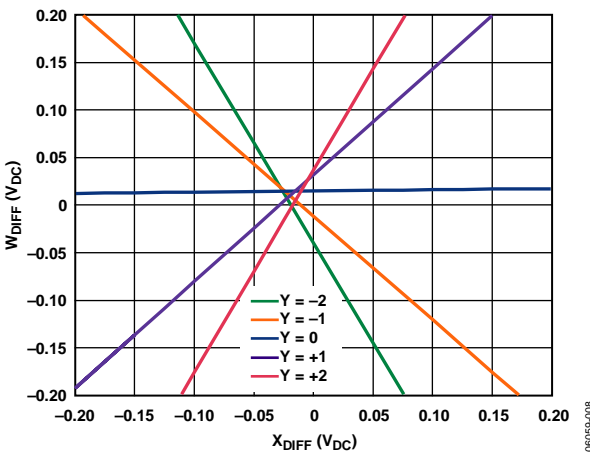

Figure 4. Magnified DC Cross Plots
The dc offset of the ADL5391 is approximately 20 mV but changes over temperature and has variation from part to part (see Figure 4). It is generally not of concern unless the ADL5391 is operated down to dc (close to the point  $X = 0$  V or  $Y = 0$  V), where 0 V is expected on the output ( $W = 0$  V). For example, when the ADL5391 is used as a VGA and a large amount of attenuation is needed, the maximum attenuation is determined by the input dc offset.
The dc component of the output is related to the square of both the offset (OFST) and the signal input amplitude (E). The offset can be found in Figure 4 and is approximately 20 mV. The